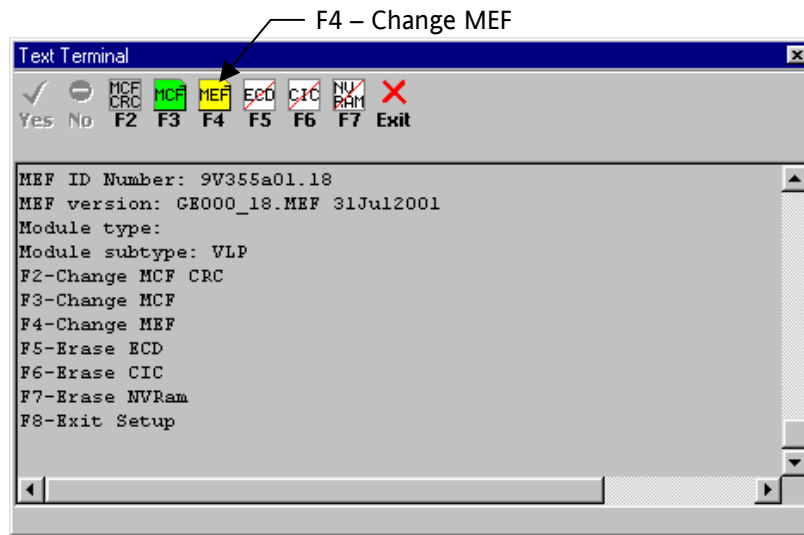

Figure 3-22
3. A boot screen similar to figure 3-22 appears. From the Function Key options, select **F4** (Change MEF).